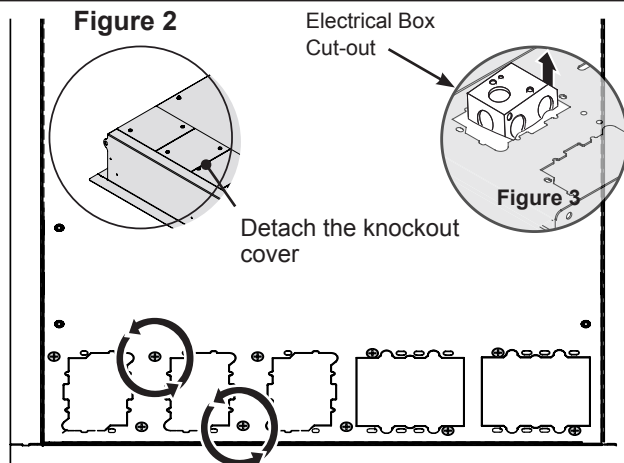

Figure 1
- 1) Remove screws from around the desired electrical knockouts (Figure 1) to detach their covers.